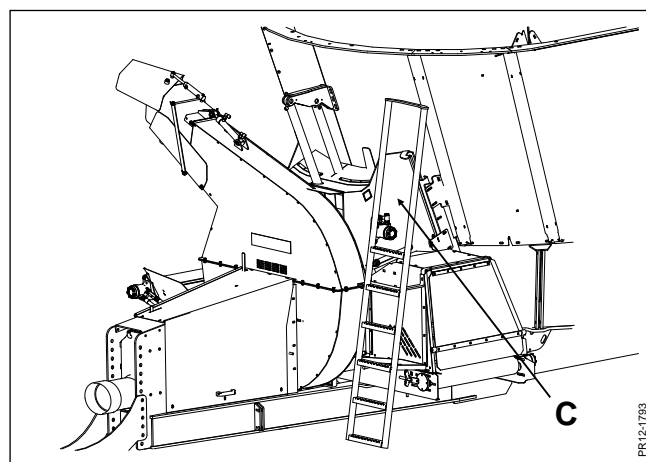
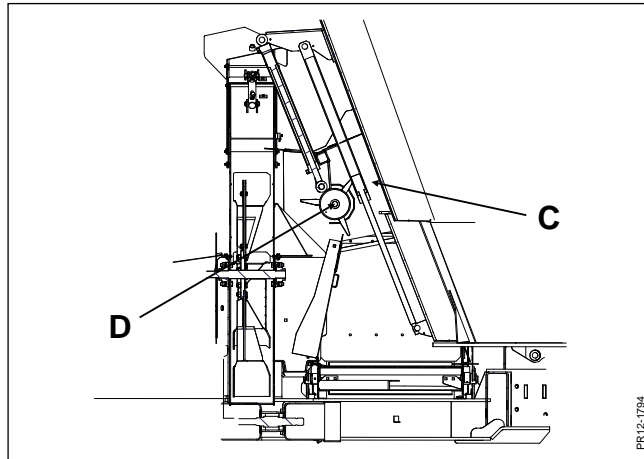

Fig. 2-2
Fig. 2-3
Fig. 2-2 This combination is possible because the straw feeding rotor (unit) (C) can move up and down, whereby you switch from feeding to straw bedding and vice versa.
Fig. 2-3 Shows the same as Fig. 2-2, only illustrated by sectional view lengthwise of the machine. This is the adjustment for feeding. The straw feeding rotor (**D**) cannot rotate in this position.
- 1) Before starting the straw bedding, the straw feeding unit (see fig. 2.2 (C)) must be moved down by pushing switch (1) to the left.
- 2) The straw bedder is connected by pushing switch (2) to the right.
2) Before the feeding is started, the straw feeding unit (see fig. 2.2 (C)) must be moved up by pushing switch **(1)** to the right.